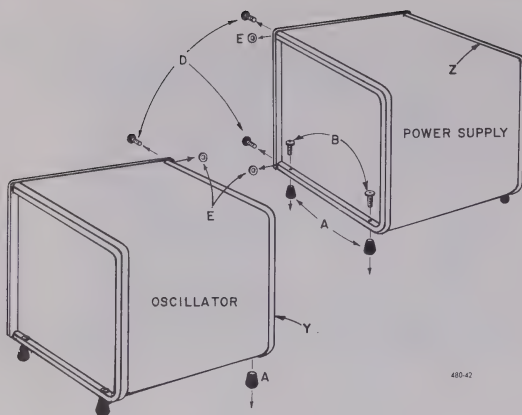
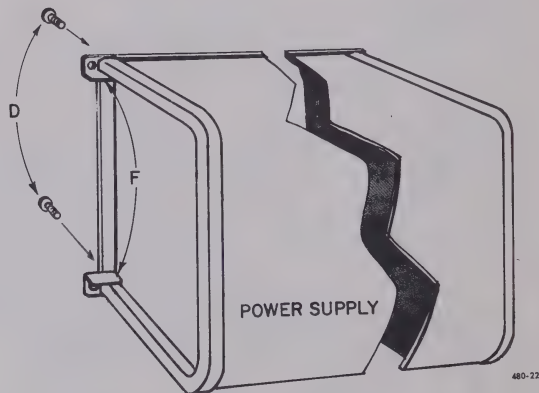

Figure 2-8.
Figure 2-9.
a. Remove both rubber feet (A) at the right-hand side of the power supply and the left-hand side of the oscillator (see Figure 2-8).
b. Remove the two end-frame attaching screws (D) at the right-hand edge of the power supply and the left-hand edge of the oscillator.
c. Remove the spacers (E) between the panels and the end frames.
d. Insert brackets (F) in place of the washers on the power supply (see Figure 2-9). Reinstall panel screws (D).